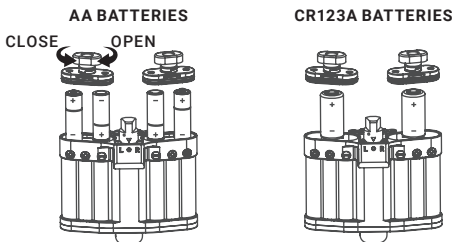

FIGURE 2-2. INSTALLING BATTERIES INTO THE BATTERY PACK
2. Load two AA batteries or one CR123A into each battery compartment (as shown in Figure 2-2). Pay attention to the battery polarity orientation when loading.